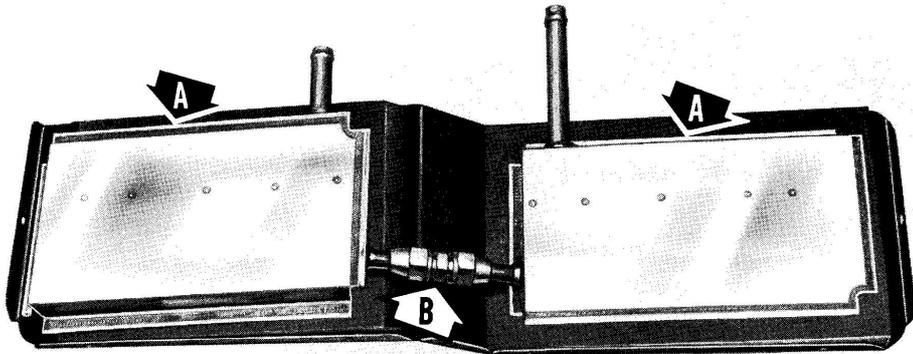

Fig. 2. (A) Battery pads and insulation in position. (B) Battery pads connected.
- c. Place the battery pad with the 4-7/8" hose connector on the right side of the battery compartment cover. Place the other pad in place on the left side of the cover and connect the two as shown in Fig. 2. With these parts in place, return the cover to its original position.